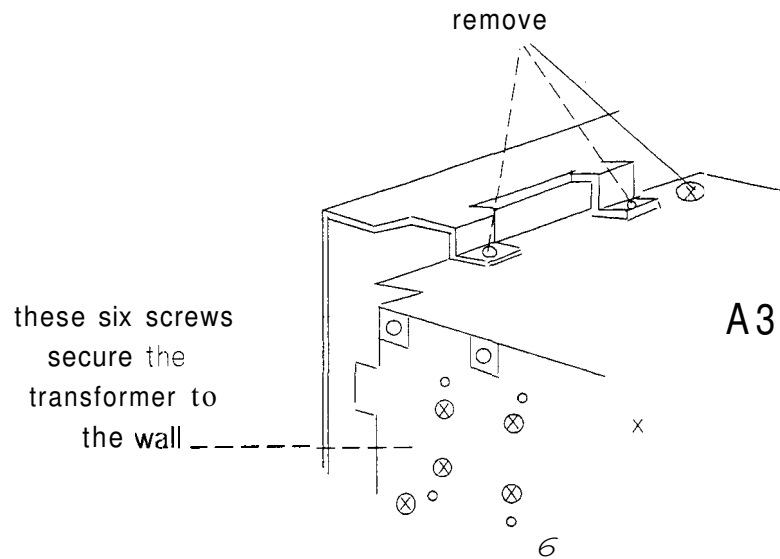

Figure 5-23. Fan assembly securing screws A3 side
3. Remove the six screws which secure the transformer unit to the cage wall. If the large screw which secures the transformer housing on the A3 assembly side is still in position, remove it. See Figure 5-23.